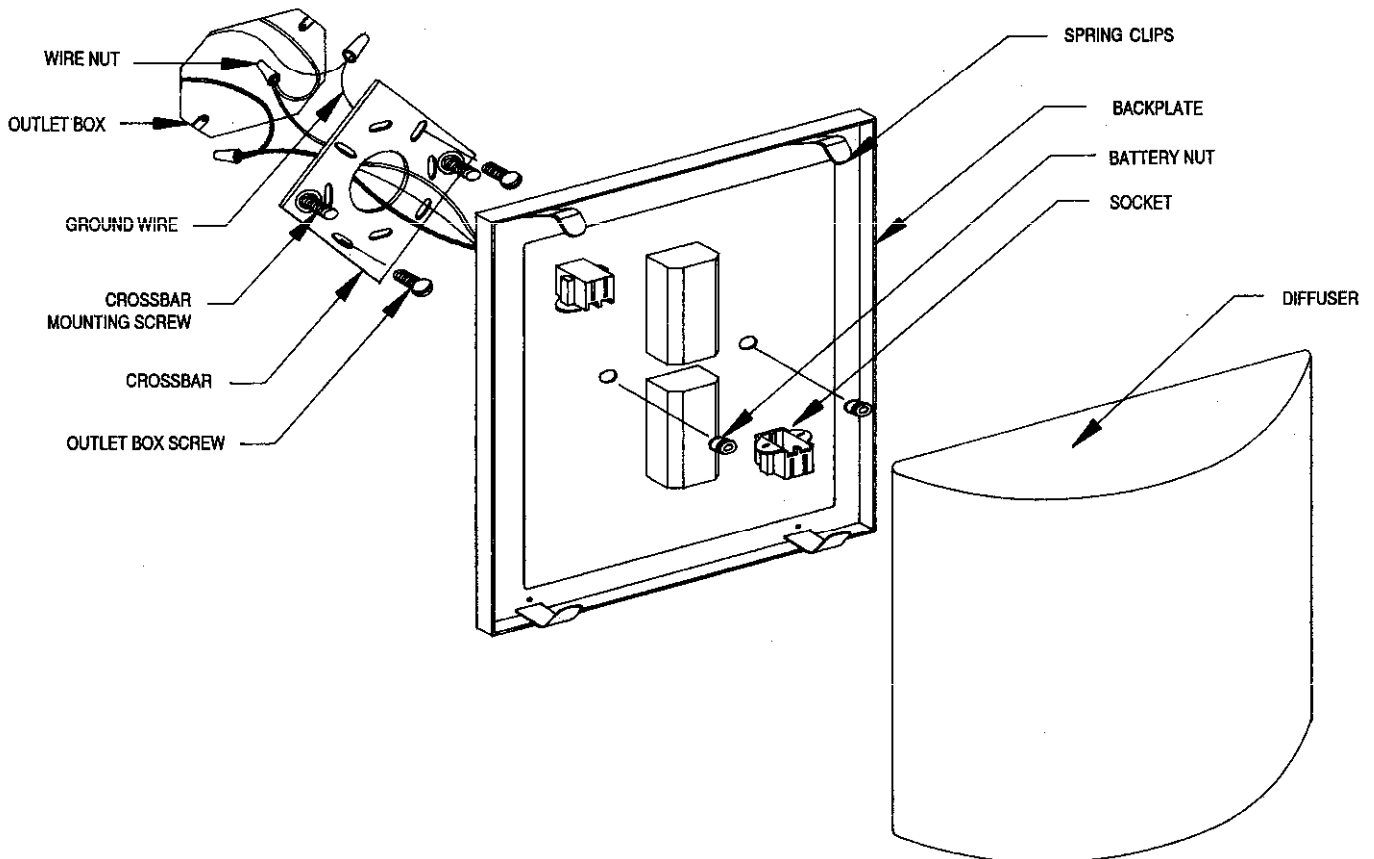

FIG. 1
1. Thread **CROSSBAR MOUNTING SCREWS** into **CROSSBAR** so mounting screw heads tighten into recessed area of **CROSSBAR** (Fig. 1).